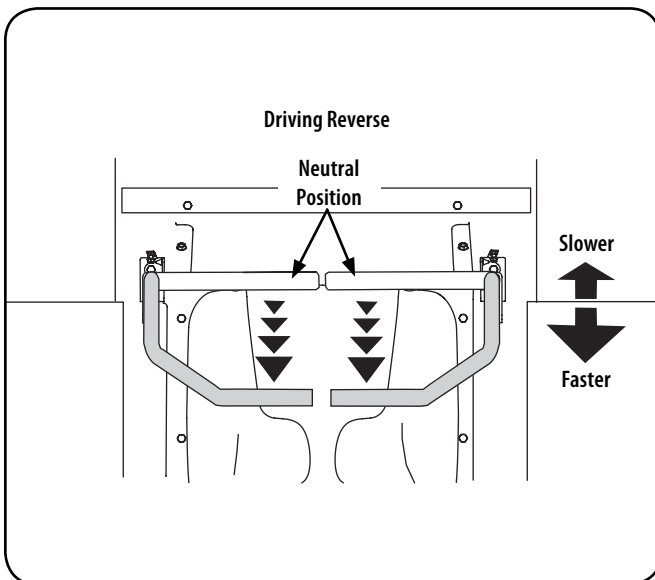

Figure 14
1. Slowly and evenly move both drive control levers rearward. The tractor will start to move in the reverse direction. See Figure 14.